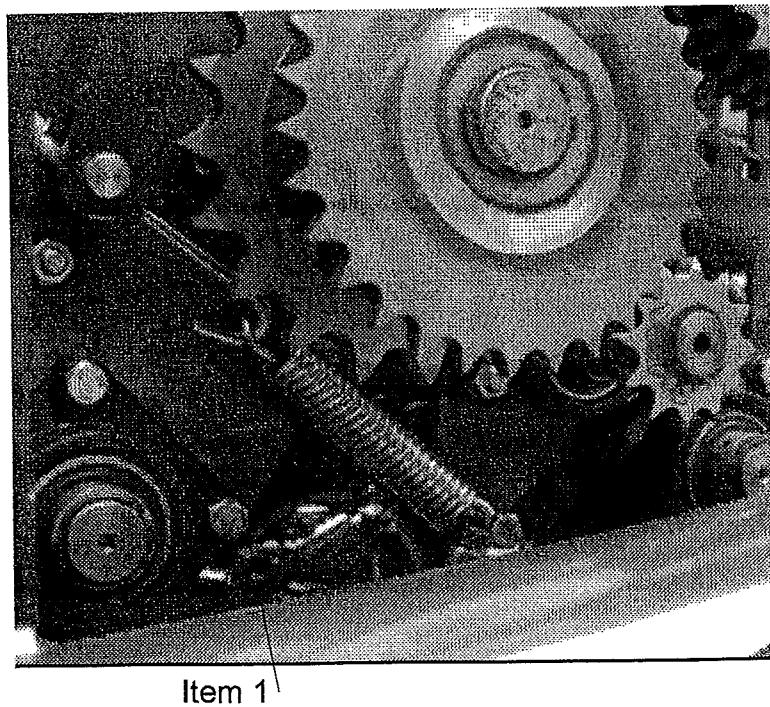

Fig 7.7
Adjust spring tension via hook bolt (Fig 7.7 item 1).